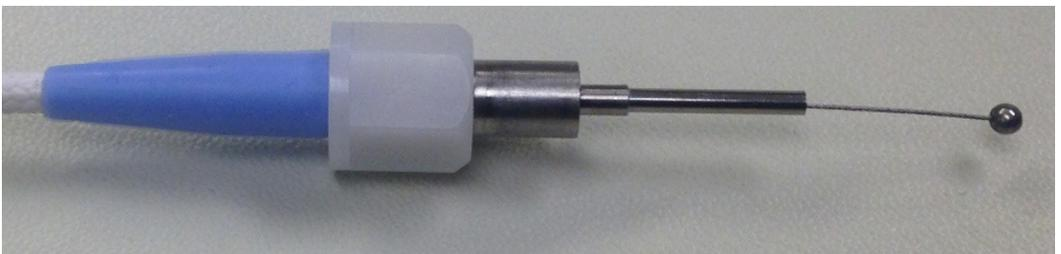
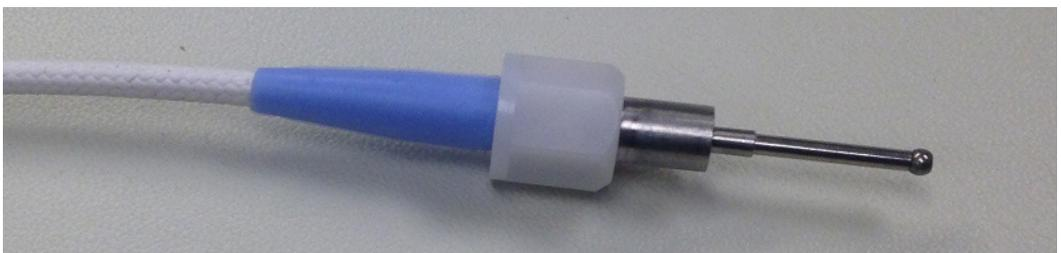

Fig. 4-2 Unseated Ball of a Tension Guide
Fig. 4-3 Seated Ball of a Tension Guide
5. If the end of the Tension Guide appears like Figure 4-2, the loop has not been fully expanded. It should look like Figure 4-3.